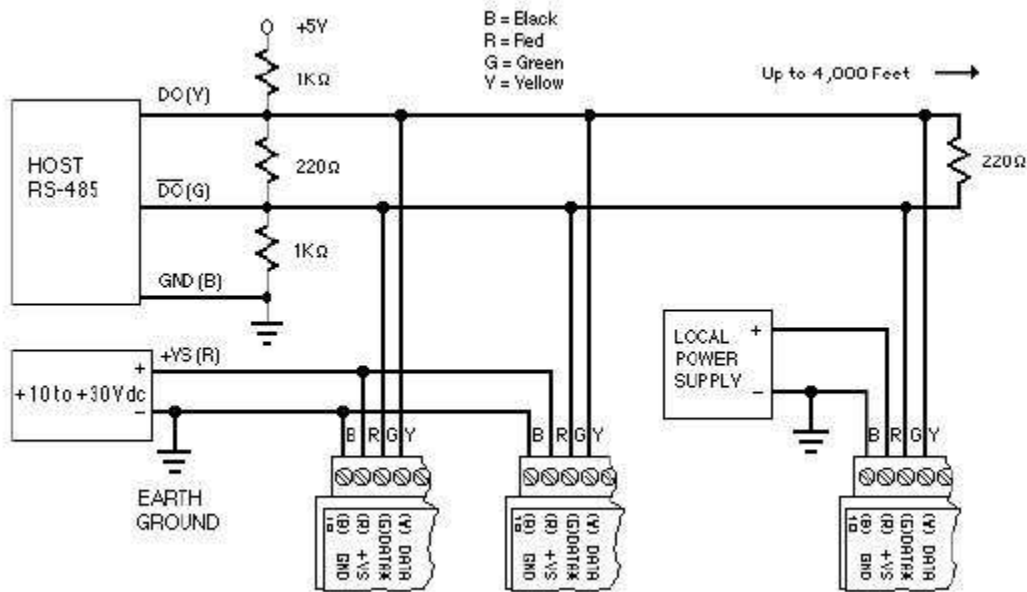

Figure 2.0 Typical RS-485 Serial Communications System Architecture
Figure 2.0 below illustrates the wiring required for multiple-module RS-485 system. Notice that every module has a direct connection to the host system. Any number of modules may be unplugged without affecting the remaining modules. Each module must be setup with a unique address and the addresses can be in any order. Also note that the connector pins on each module are labeled with notations (B), (R), (G), and (Y).
When using a bi-directional RS-485 system, there are unavoidable periods of time when all stations on the line are in receive mode. During this time, the communications lines are left floating and are very susceptible to noise. To prevent the generation of random characters, the lines should be biased in a MARK condition as shown in Figure 2.0. The 1K resistors are used to keep the DATA line more positive than the DATA* line when none of the RS-485 communications transmitters are on.